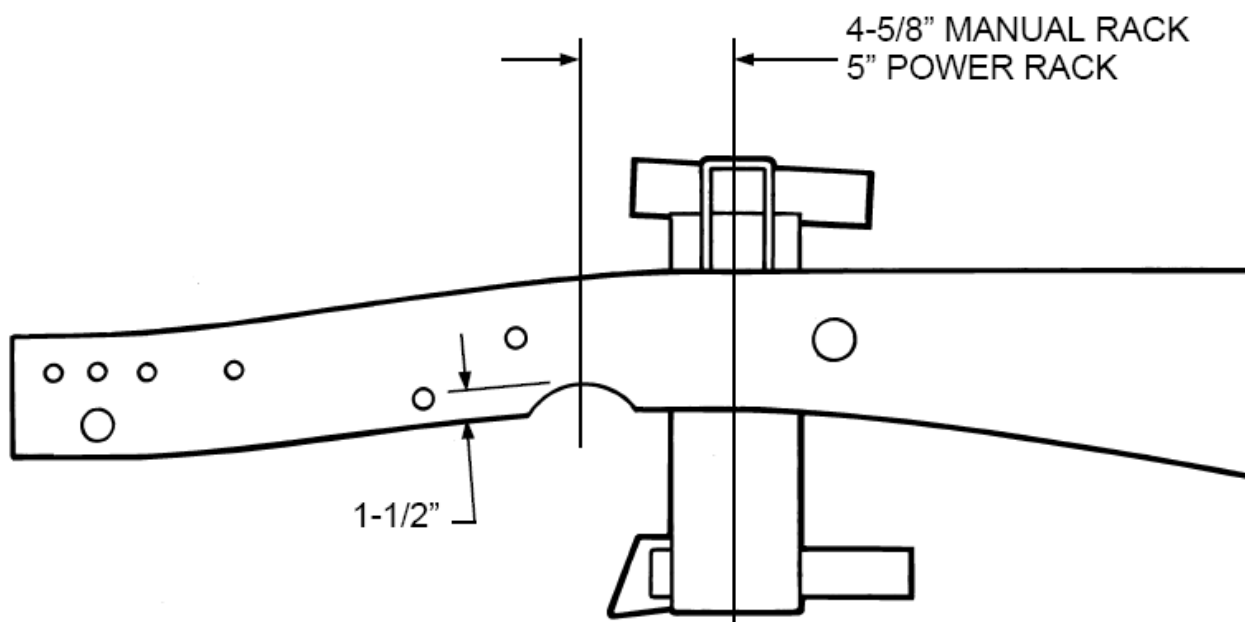

Figure 4- C-Notch
6. The C-notch for the rack and pinion is the last part to be done. Measure forward 4-5/8" from the centerline for manual rack or 5" for power rack, and up 1-1/2" and make a mark. Now draw a 2-1/8" radius, using your mark as the top of the radius. See **Figure 4**. Trim out the material marked, leaving about 1/8" to work with, and then try the rack and the C-notch filler pieces. Finish grinding the notch for fit and location, and tack the filler pieces in place. Remove the rack and finish welding the fillers in place. Grind smooth.